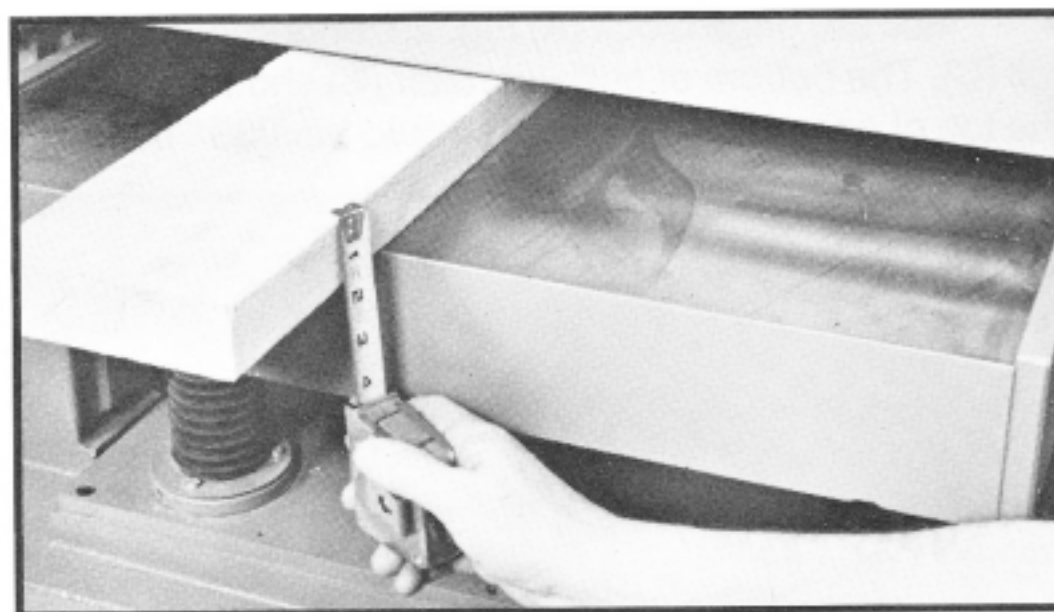
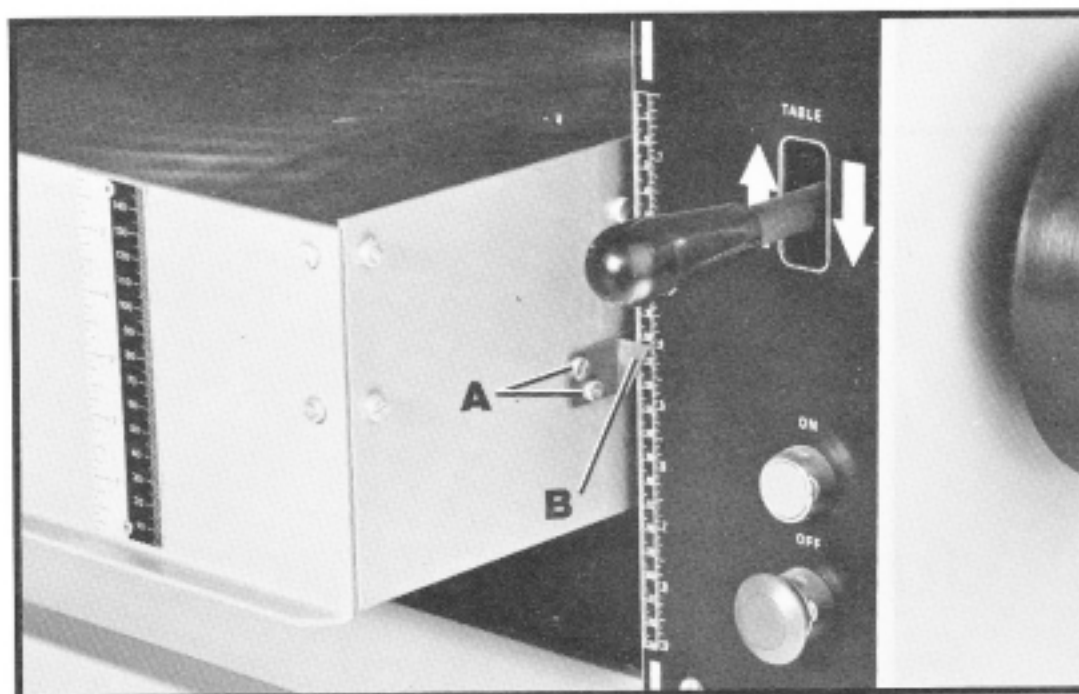

Fig. 33
Fig. 34
2. Measure the thickness of the finished piece, as shown in Fig. 33. If necessary, loosen two screws (A) Fig. 34, adjust pointer (B) and retighten screws (A).